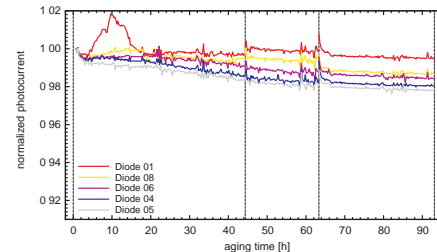
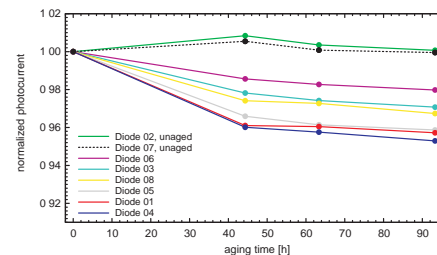

Figure 3: Normalized photocurrent for 5 photodiodes during aging with the medium pressure lamp.
Figure 4: Normalized photocurrent, characterization with the low pressure lamp.
- much larger decrease in responsivity as compared to fig. 3
Calculated values perfectly agree with measurement data from both types of lamps (fig. 3 and fig. 4).